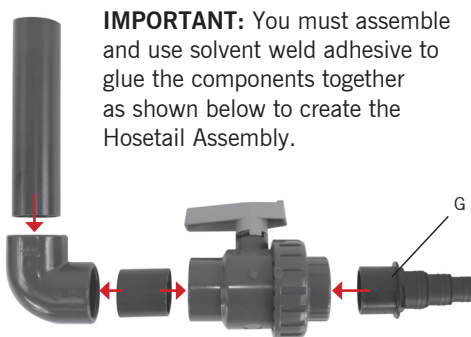

Figure 7.1. Hosetail assembly
1. Glue the components together to make the Hosetail Assembly (Figure 7.1). We recommend using solvent weld adhesive (not supplied).
2. Attach the Hosetail Assembly (Figure 7.1) to the EazyConnector on the NexusTi Inlet (A).
3. Connect the hose / pipework from your pump to the hosetail (G), cutting down the hose tail to fit the correct hose, we recommend using 1½" hose.
4. Connect your 4" return pipework to the EazyConnector on the Exit (B).
5. Pour the 50L K+Media bag into the outer chamber (C) of the NexusTi.
6. Connect your air pump to the NexusTi air inlet (E).
7. Connect the waste valves (F) to your waste outlet as described on the next page.